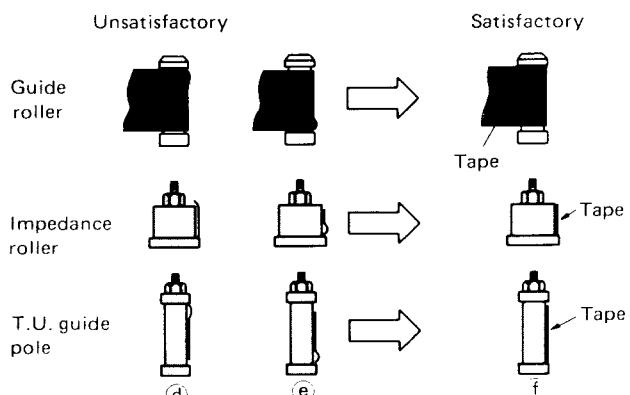

Fig. 4-13
- 2) Rotate the audio/control head inclination adjusting screw ④ and adjust so that the tape will run smoothly at the take up guide pole as illustrated in Fig. 4-13 ⑥.